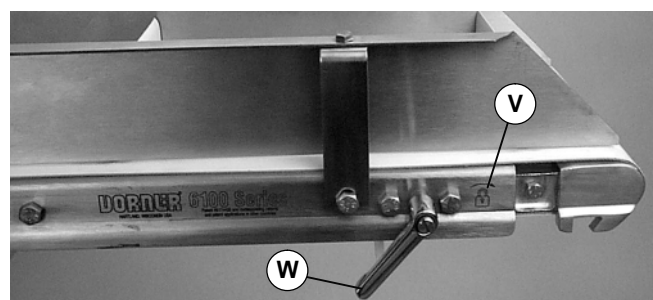

Figure 19
symbol  (V of Figure 19).
4. While holding tension handle (X), rotate lock handle (W of Figures 19 & 21) counter-clockwise to release the lock.
1. Completely loosen lock handle (W of Figure 19).
3. Tighten lock handle (W of Figure 19) by rotating it clockwise .